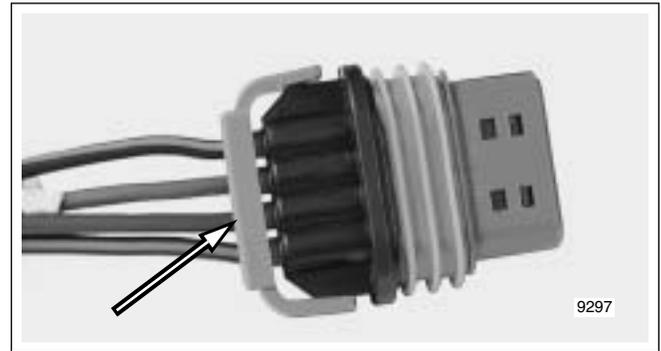

Figure 8-16. Remove Wire Lock
2. If present, free one side of wire lock from ear on wire end of socket housing, then release the other side. Release wires from channels in wire lock and remove from socket housing. See Figure 8-16.
4. If present, seat wires in separate channels of wire lock and then push channels inside chambers at wire end of socket housing. Fully installed, slot on each side of wire lock engages ear on socket housing. See Figure 8-16.